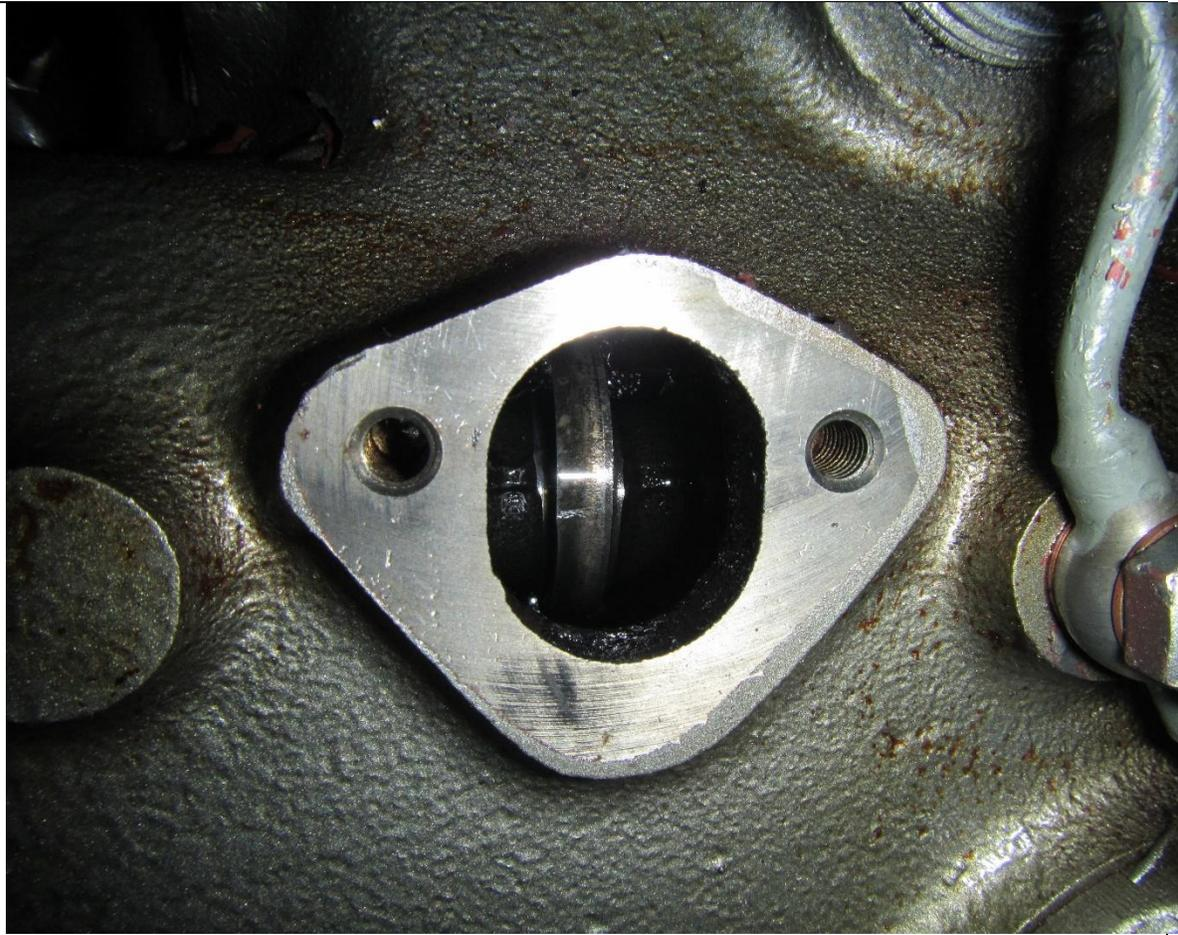

Figure 2 Fuel Feed Filter Flange (before cleaning)
- 10) Remove the old gasket from the engine. It is unlikely to come off in one piece. Get as much off as you can without tools, then switch to a plastic scraper to remove the rest. After you get it mostly scraped off it will look like **Figure 2**. This is not sufficiently clean that black gunk toward the bottom had to go. **You need to use a clean cloth and acetone or some other degreaser to clean up the surface back to a smooth shiny condition.** Elbow grease may be required.